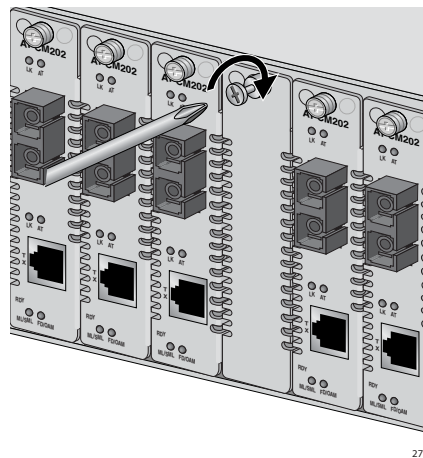

Figure 38. Tightening the Captive Screw on an AT-CV5PNL1
- Use a Phillips screwdriver to tighten the captive screw, as shown in Figure 38.